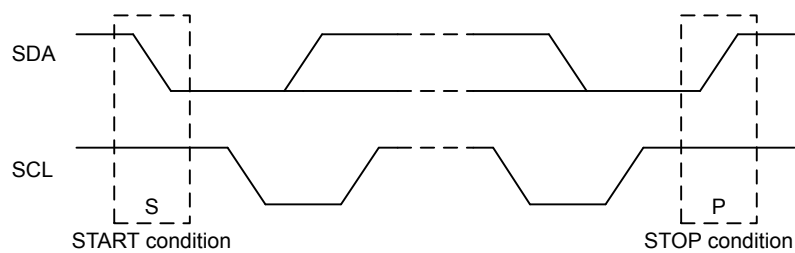

Figure 17.4. I2C START and STOP Conditions
START and STOP conditions are used to initiate and stop transactions on the I²C-bus. All transactions on the bus begin with a START condition (S) and end with a STOP condition (P). As shown in Figure 17.4 I2C START and STOP Conditions on page 503, a START condition is generated by pulling the SDA line low while SCL is high, and a STOP condition is generated by pulling the SDA line high while SCL is high.